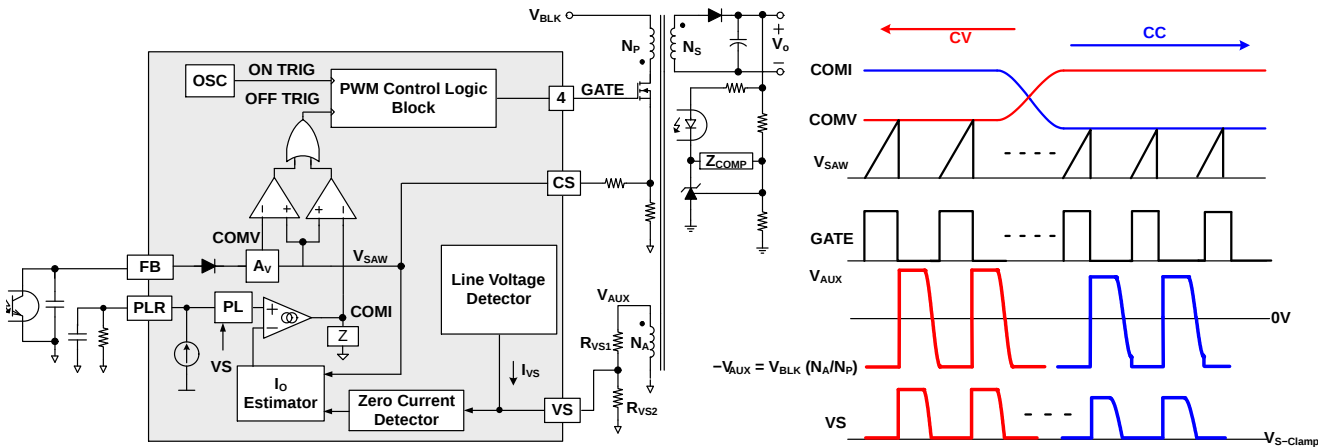
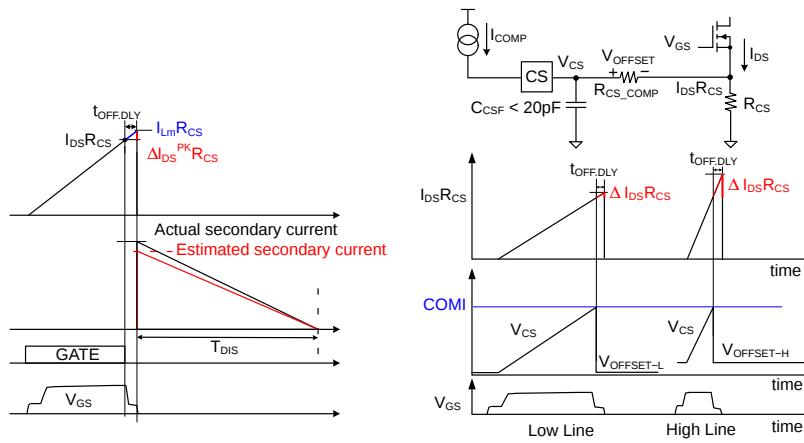

Figure 27. Simplified PWM Control Circuit and PWM Operation for CV/CC Regulation
Figure 29. Effect of MOSFET Turn-off Delay and Line Voltage Compensation
Figure 27 shows a simplified CV / CC PWM control circuit of the FAN604P. The Constant Voltage (CV) regulation is implemented in the same manner as the conventional isolated power supply, where the output voltage is sensed using a voltage divider and compared with the internal reference of the shunt regulator to generate a compensation signal. The compensation signal is transferred to the primary side through an opto-coupler and scaled down by attenuator A_V to generate a COMV signal. This COMV signal is applied to the PWM comparator to determine the duty cycle.
These two control signals, COMV and COMI, are compared with an internal sawtooth waveform (V_{SAW}) by two PWM comparators to determine the duty cycle. Figure 27 illustrates the outputs of two comparators, combined with an OR gate, to determine the MOSFET turn-off instant. Either of COMV or COMI, the lower signal determines the duty cycle. During CV regulation, COMV determines the duty cycle while COMI is saturated to HIGH level. During CC regulation, COMI determines the duty cycle while COMV is saturated to HIGH level.
The output current estimation is also affected by the turn-off delay of the MOSFET as illustrated in Figure 29. The actual MOSFET's turn-off time is delayed due to the MOSFET gate charge and gate driver's capability, resulting in peak current detection error as
Where L_m is the transformer's primary side magnetizing inductance. Since the output current error is proportional to the line voltage, the FAN604P incorporates line voltage compensation to improve output current estimation accuracy. Line information is obtained through the line voltage detector as shown in Figure 27. I_{COMP} is an internal current source, which is proportional to line voltage. The line compensation gain is programmed by using CS pin series resistor, R_{CS_COMP} , depending on the MOSFET turn-off delay, $t_{OFF,DLY}$. I_{COMP} creates a voltage drop, V_{OFFSET} , across R_{CS_COMP} . This line compensation offset is proportional to the DC link capacitor voltage, V_{BLK} , and turn-off delay, $t_{OFF,DLY}$. Figure 29 demonstrates the effect of the line compensation.